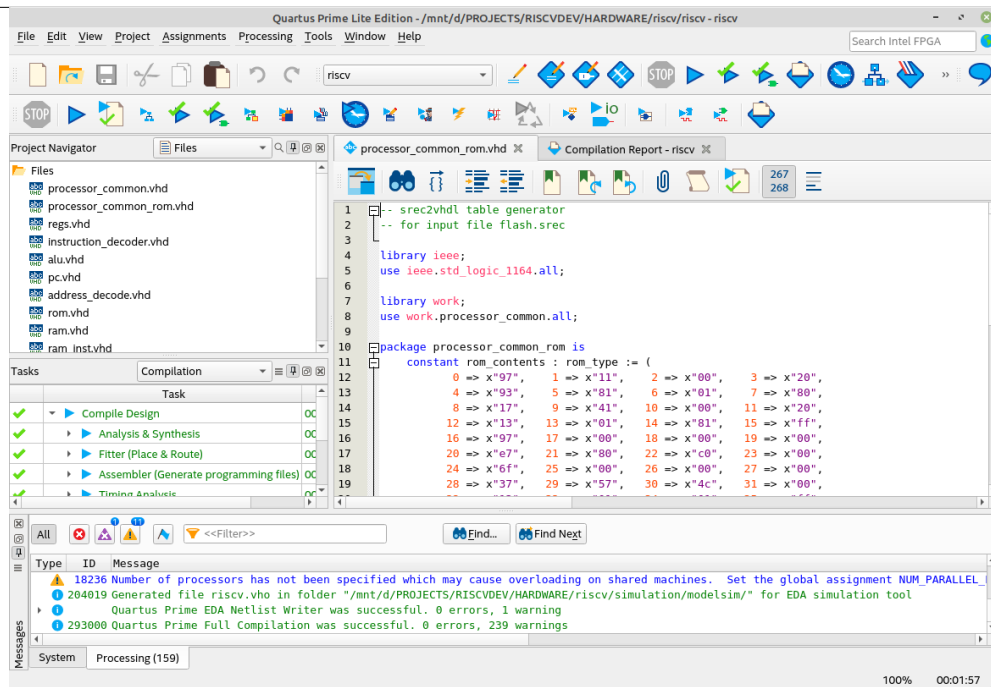

Figure 1: Image of the Quartus project (1).
- Now start the compilation of the VHDL code in Quartus Prime Lite and program the compiled file. This file has the extension `.sof`. See Figures 1 to 3.